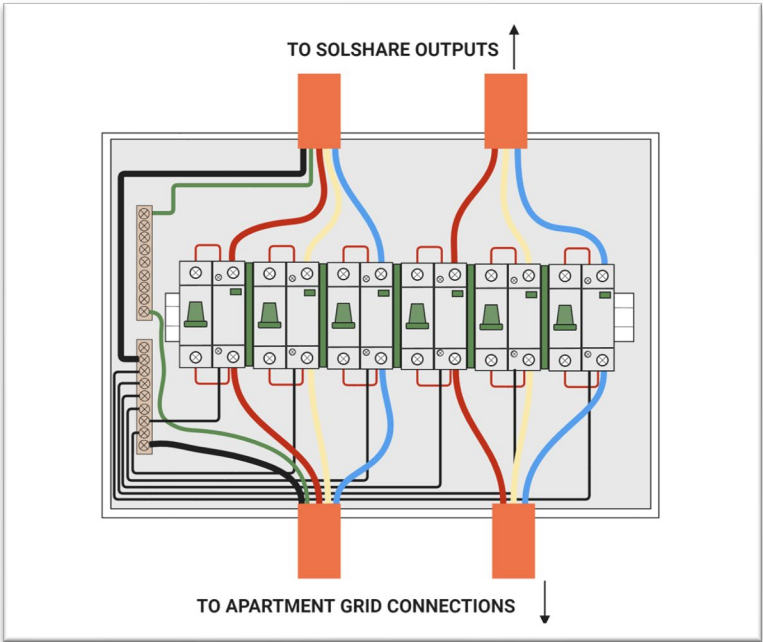

Figure 5. Full Isolation Box Internal wiring
- For each SolShare output (i.e. L1-1, L2-1, L3-1, L2-5, L3-5), connect the cables to the contactor terminals labelled "1" of the respective contactors as shown in *Figure 5*.